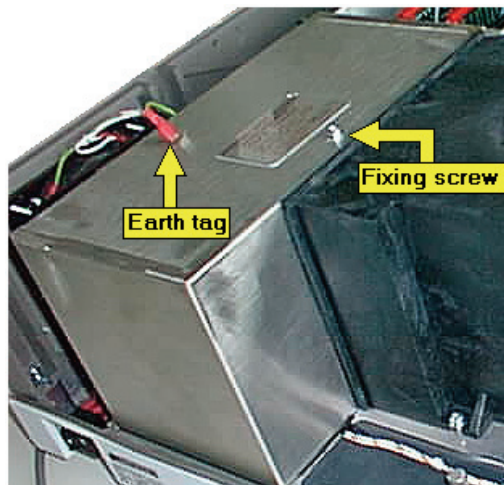

Figure 76 Earth lead and fixing screw
3. Remove the middle optical cover by lifting it vertically, as shown in Figure 76.